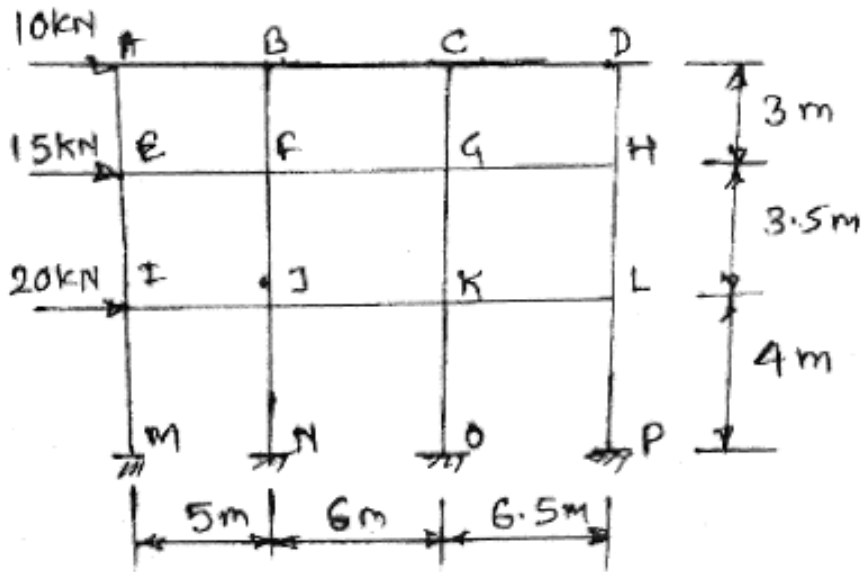

Fig. 12b
b) Determine the approximate values of bending moment, shear force, and axial force in the plane frame loaded as shown in fig. using cantilever method. The areas of cross-section of an interior column is 1.25 times the area of outer column. Refer Fig. 12b. 10